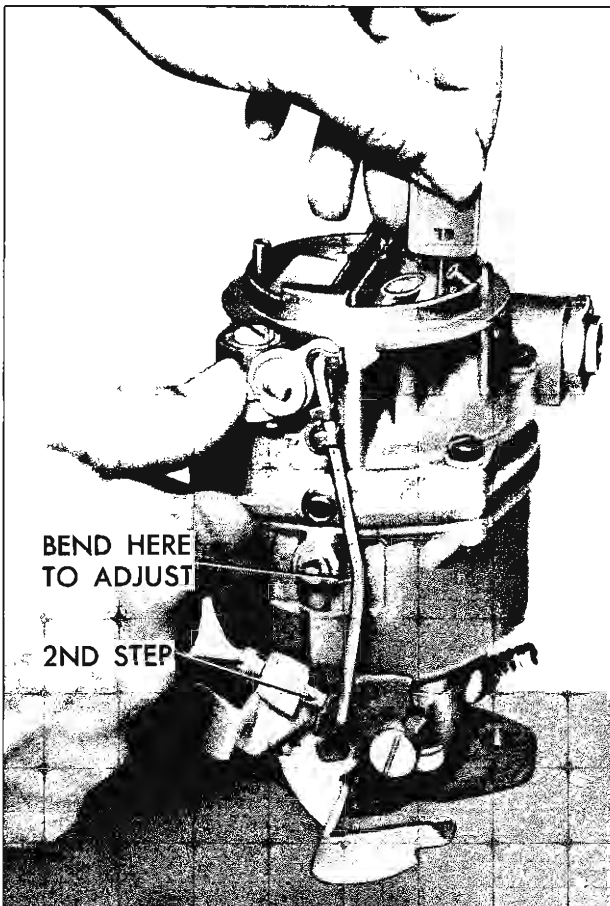

Fig. 5—Fast Idle Rod Adjustment
1. Place end of idle adjusting screw on the next to highest step of the fast idle cam. Using Tool J-9580, see if .050 gauge slides easily (.070 gauge should not fit) between lower edge of choke valve and bore of carburetor (fig. 5).